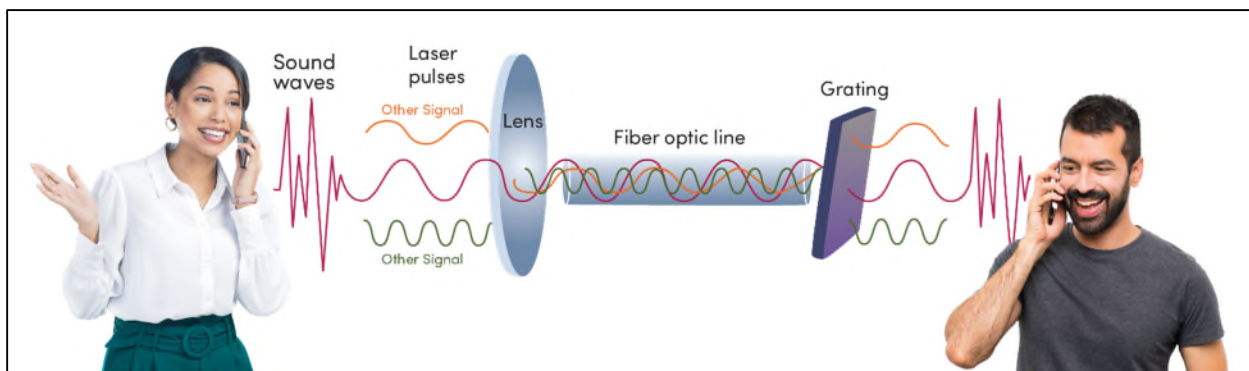

Figure 3. *The Diffraction Grating and TeleCom.*
- Ask for a show of hands by everyone who has/wants a cell phone. With the graphic (*Fig. 3*) explain how telecommunications uses fibers and lasers to divide light from one beam into many, each with a different color. This is the key to unlimited numbers of conversations all over the world at the same time. (*Optical engineers do this stuff.*)